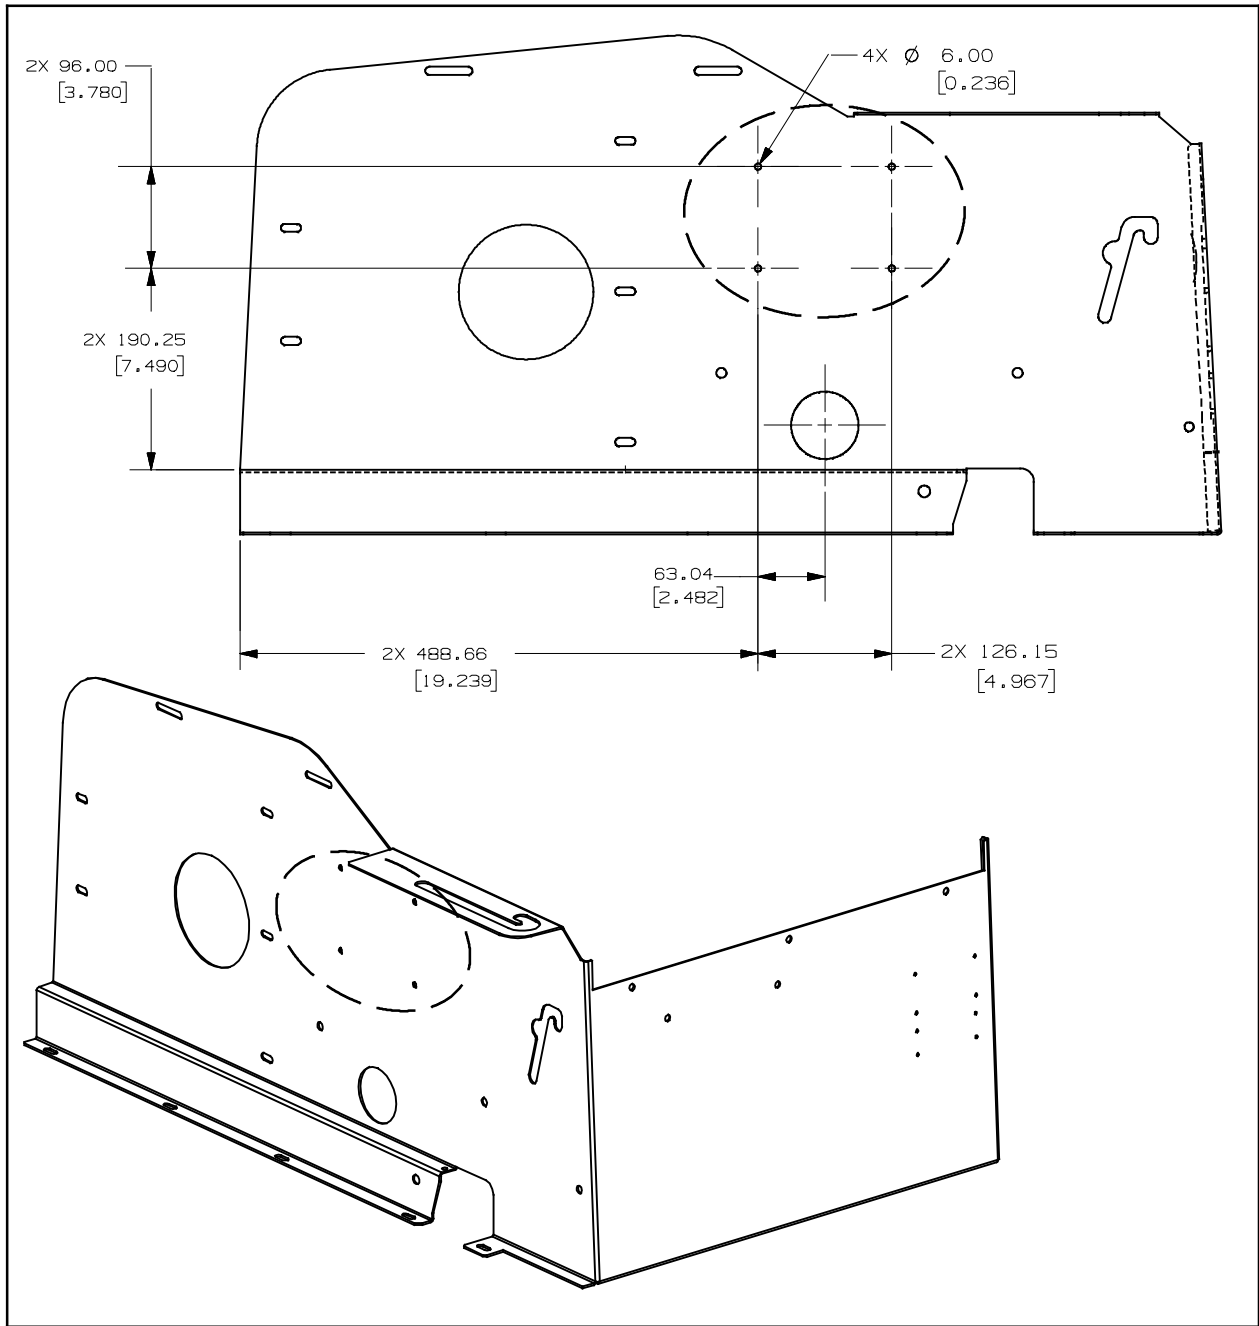

FIG. 20
2. If necessary, drill four four 0.236 in. (6 mm) holes for installing the control box (1) onto the seat support panel. (Fig. 20)